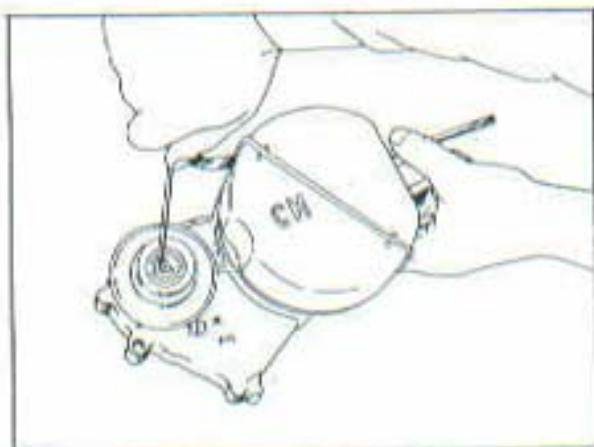

FIG. 17
- 1) Loosen the circlip with a screwdriver and pull the washer, gear and complete drive off the output shaft (Fig. 17).